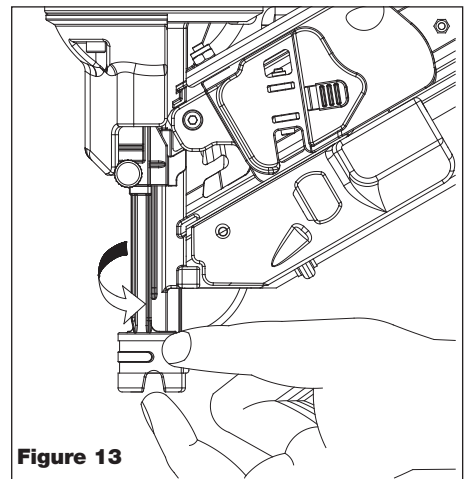

Figure 13
4. Twist WCE 1/4 turn back to its original position as shown. See Figure 13.